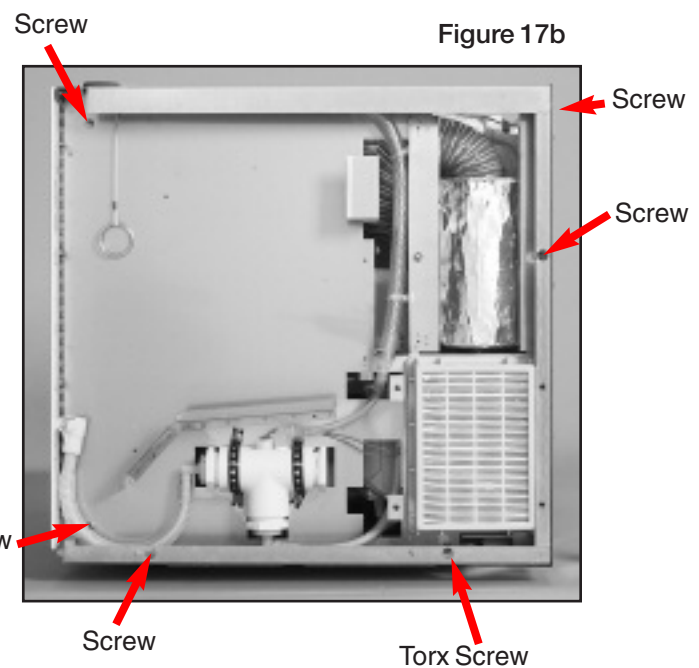

Figure 17b
5. Remove one Phillips and one Torx screw from the bottom of the chemical bracket (Figure 17b).
3. Remove the Phillips screws as shown (Figure 17b).